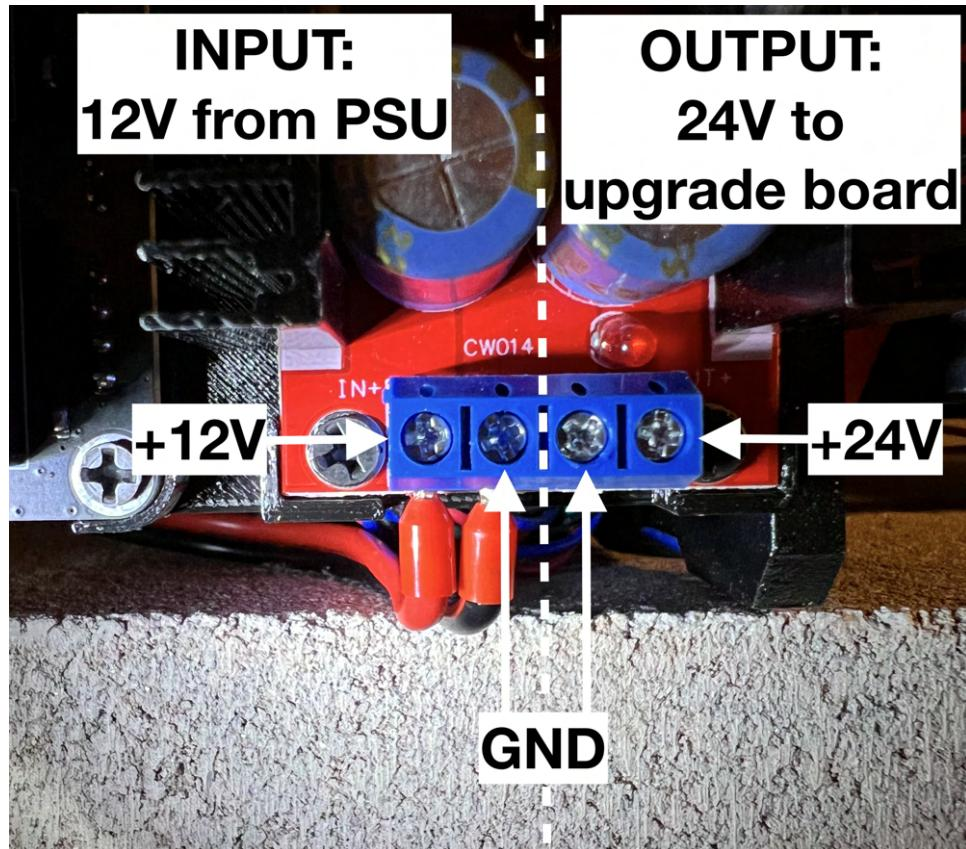

Figure 24: 12V power cables from PSU mounted to the input terminals on the boost converter. Boost converters terminals input and output connections marked.
2. Retrieve the power cables from the PSU and connect them to the positive and negative inputs on the boost converter, as illustrated in Figure 24. **NOTE:** You may need to use a small plier to flatten the connectors of the cable to ensure a secure fit into the small screw terminal.
4. Turn off the printer, disconnect the power cable from the PSU, and wait until the red LED on the boost converter turns off before connecting the short 2-pin power cable from the output of the boost converter, marked in Figures 24, 25, to the input of the upgrade board.